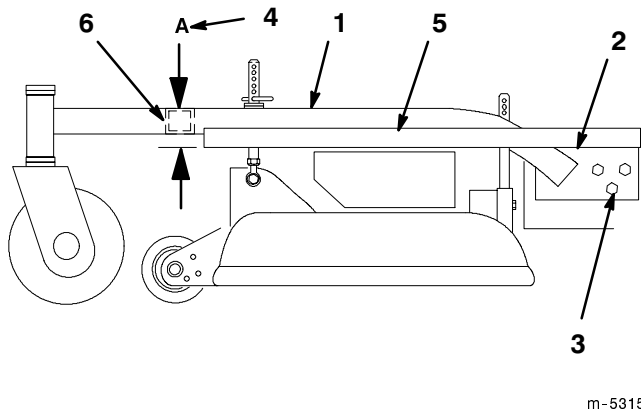

Figure 48
2. Place a long straight edge on top of the engine deck as shown in figure 48.
3. At the carrier frame cross tube, measure location "A" height (Fig. 48). This measurement must be 2-13/16 in., plus or minus a 1/4 in.
5. Loosen the carrier frame mounting bolts on both sides of the machine (Fig. 48).
6. Align the carrier frame and engine deck to match 2-13/16 in., plus or minus a 1/4 in. at location "A" (Fig. 48).
7. Tighten the carrier frame mounting bolts on both sides of the machine (Fig. 48).